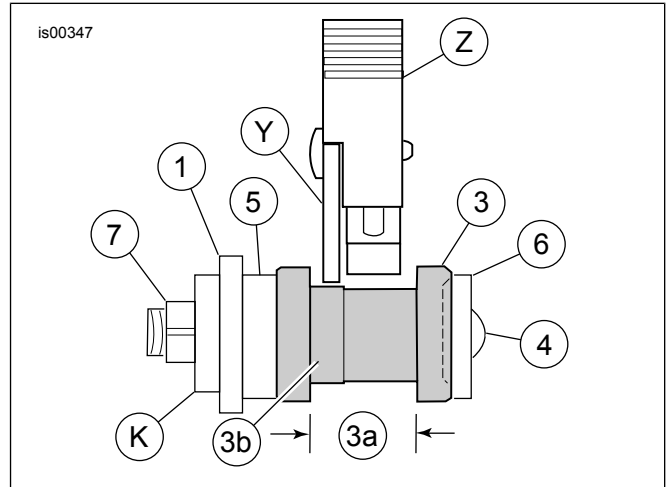

Figure 7. Proper Alignment of Latch in Docking Point
7. See Figure 7 and Figure 1. Place a washer (6) onto the threads of a button-head screw (4) from this kit.
8. Place a docking point (3), oriented as shown, over the screw threads, followed by a spacer (5).
- a. **For 1994-1996 models:** Through rearmost hole (H) in the mounting bracket (1).
- b. **For 1997 and later models:** Through frontmost hole (H) in mounting bracket (1).
- c. Insert screw threads through larger hole in bracket (53805-99, item K, part of Rack or Sissy Bar Upright Kit) and fasten loosely in place with locknut (7).